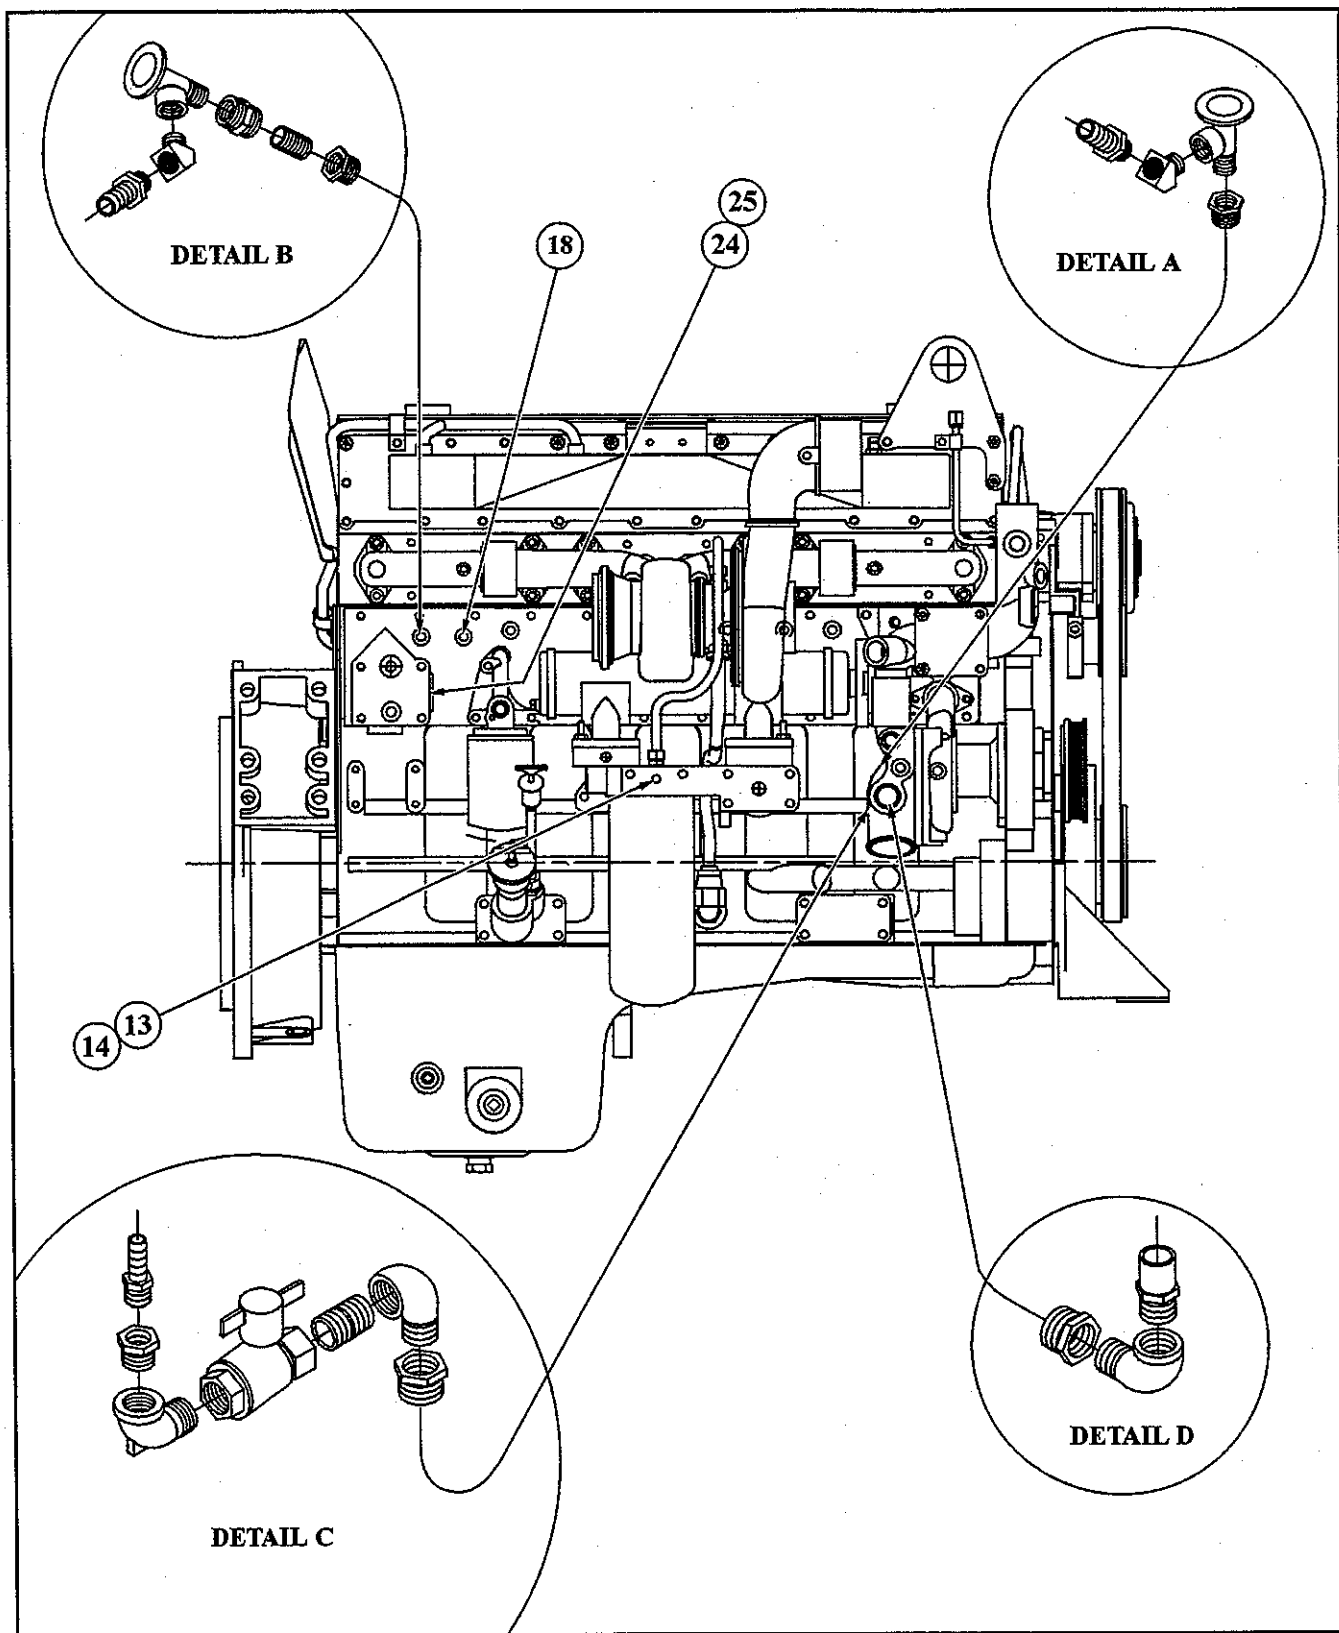
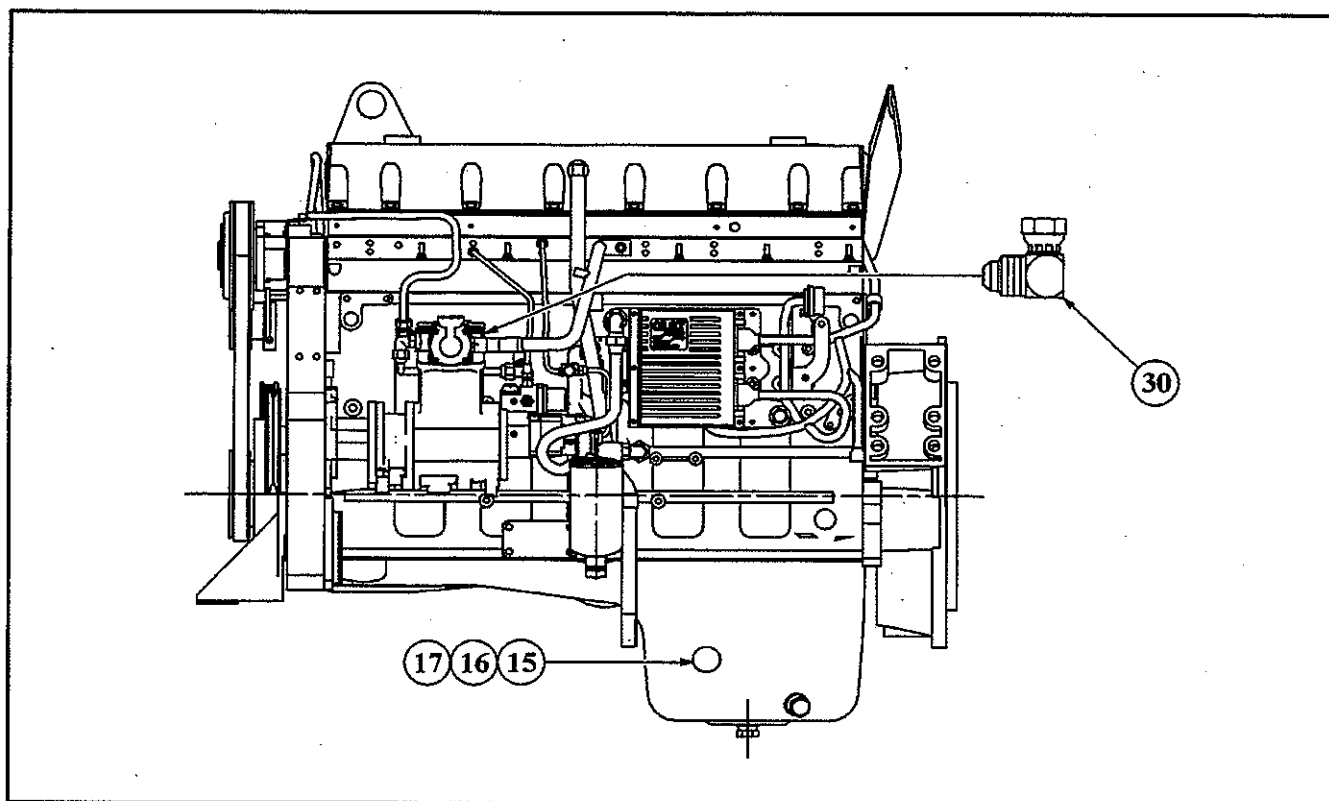

Figure 2—Engine Left Side Forward Looking Rear
Figure 3—Engine Right Side Forward Looking Rear
2. Disconnect the heater return (6). (See Figure 2—Engine Left Side Forward Looking Rear.)
3. Remove engine block heater (24).
4. Disconnect heater supply. (See Detail B of Figure 2.)
5. Disconnect pressure oil sender (14).
6. Remove brass bushing (13).
7. Disconnect heater adapter pipe (7).
8. Remove water temperature sender (18).
9. Disconnect oil temperature sender (17). (See Figure 2—Engine Right Side Forward Looking Rear.)
10. Remove the two-pipe bushings (16) and (15).
15. Disconnect swivel elbow (30). (See Figure 3—Engine Right Side Forward Looking Rear.)